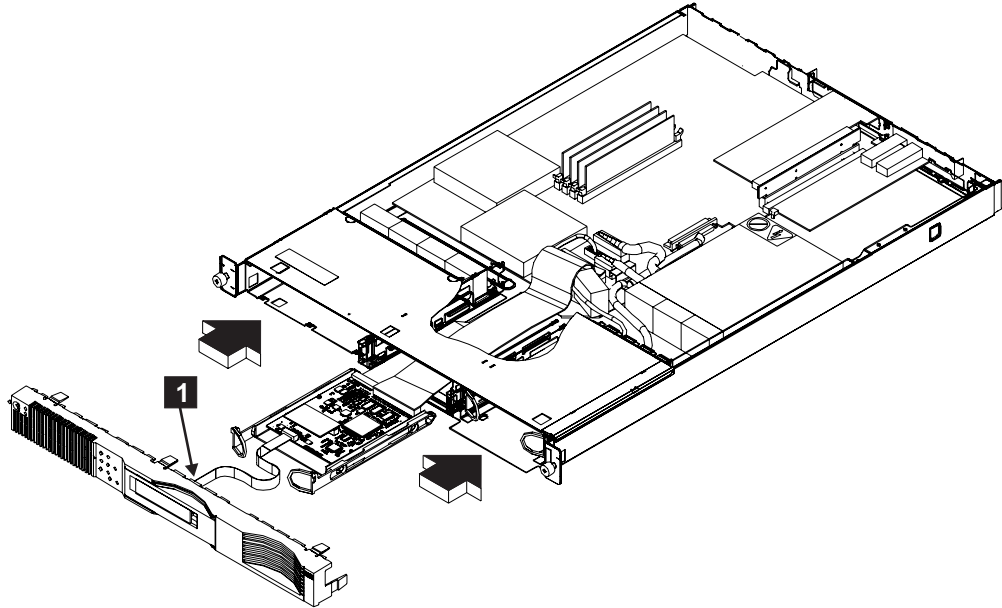

Figure 34. Replacing the front panel
1. Connect the cable **1** to the front panel. See Figure 34 on page 164.